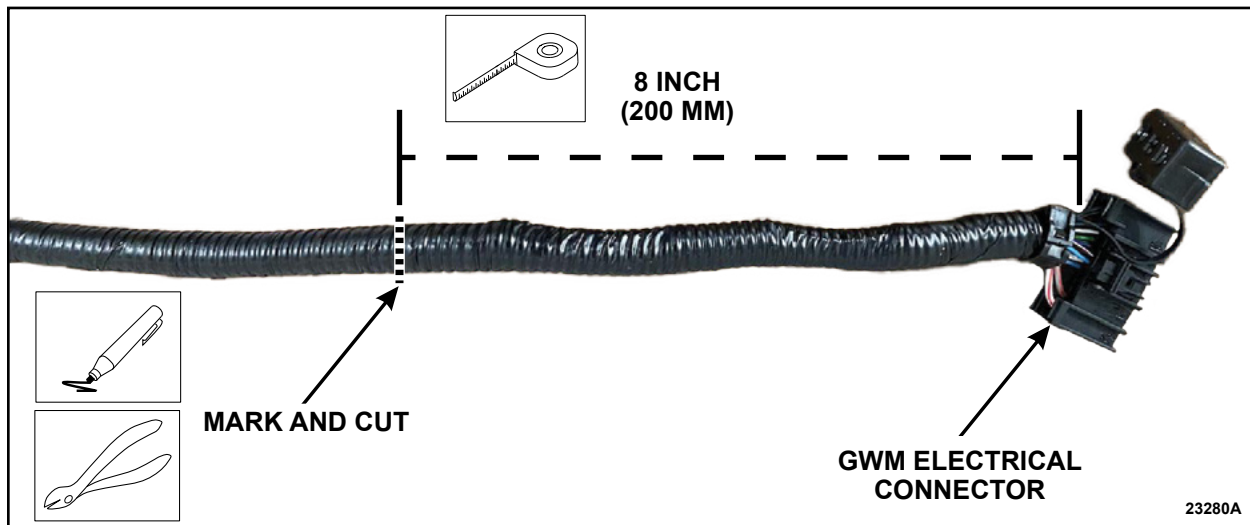

FIGURE 1
3. Measure and mark 8 inch (200 mm) from the back of the GWM electrical connector. Cut the harness on the measurement mark. See Figure 1.